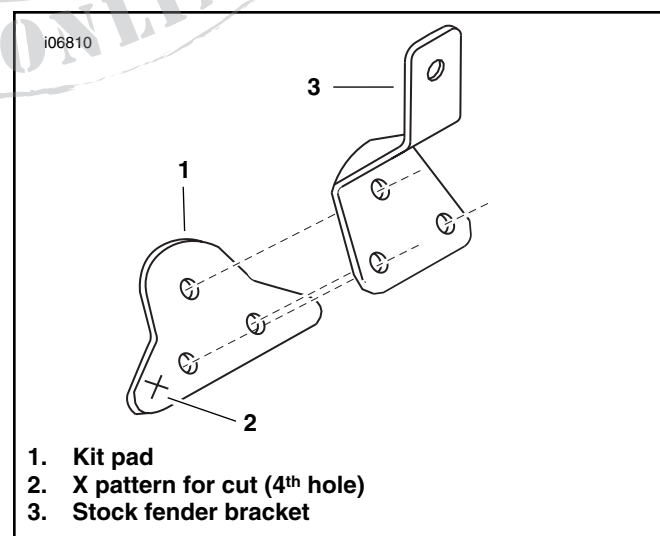

Figure 4. License Pad and Bracket
- See Figure 4. Place new pad (1) from kit onto fender, aligning the 3 holes with the 3 holes in the fender. Mark the location on the pad that aligns with the 4th hole in the fender.
- Remove pad from fender and cut an X pattern (2) over the mark.